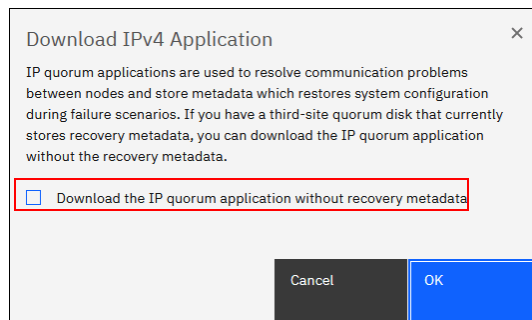

Figure 4-94 IP quorum application metadata
- When you select **Download IPv4 Application**, you are prompted whether you want to download the IP quorum application with or without recovery metadata, as shown in Figure 4-94. IP quorum applications are used to resolve communication problems between nodes and store metadata, which restores system configuration during failure scenarios. If you have a third-site quorum disk that stores recovery metadata, you can download the IP quorum application without the recovery metadata.